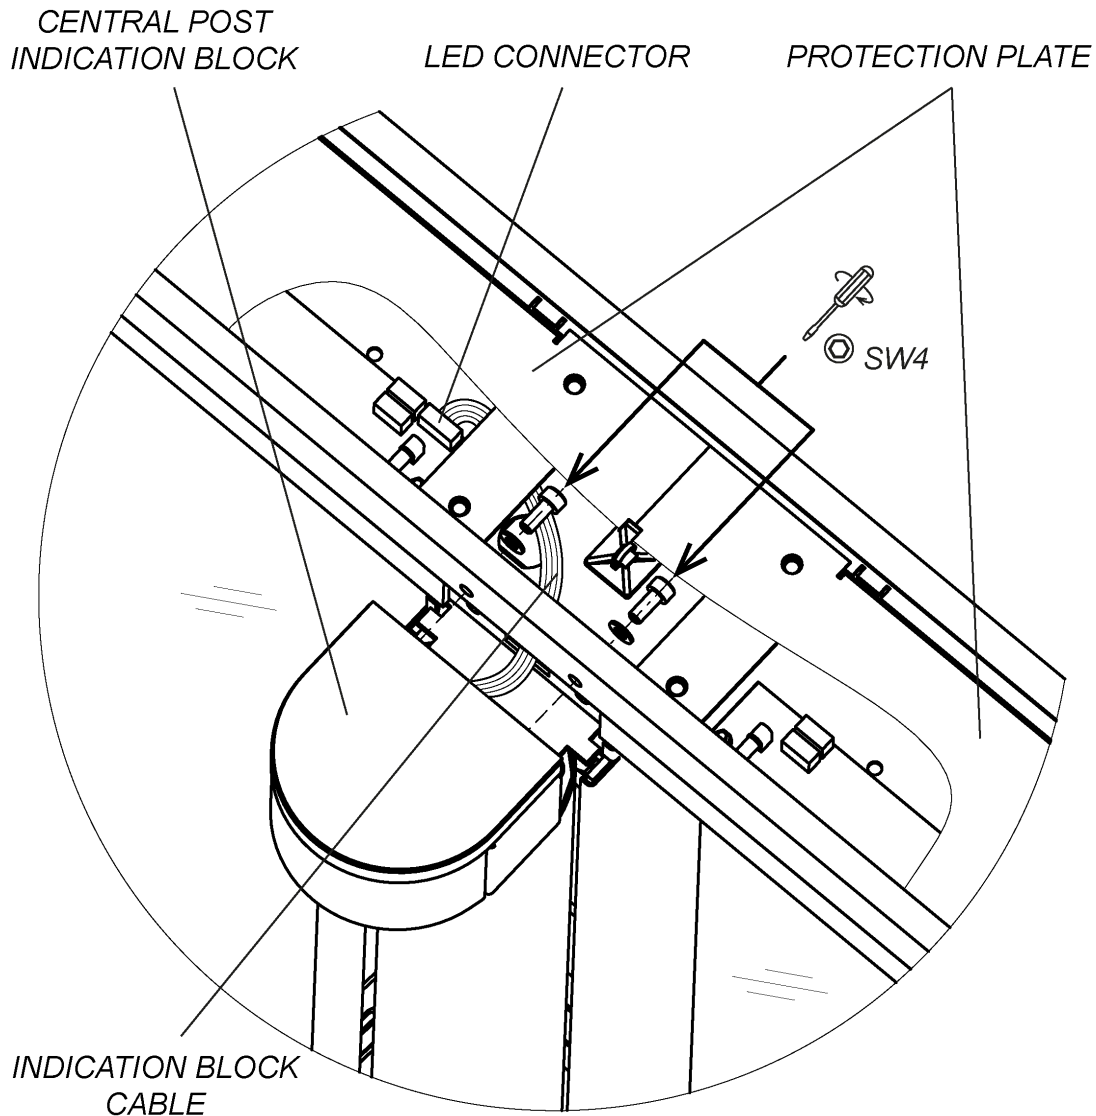
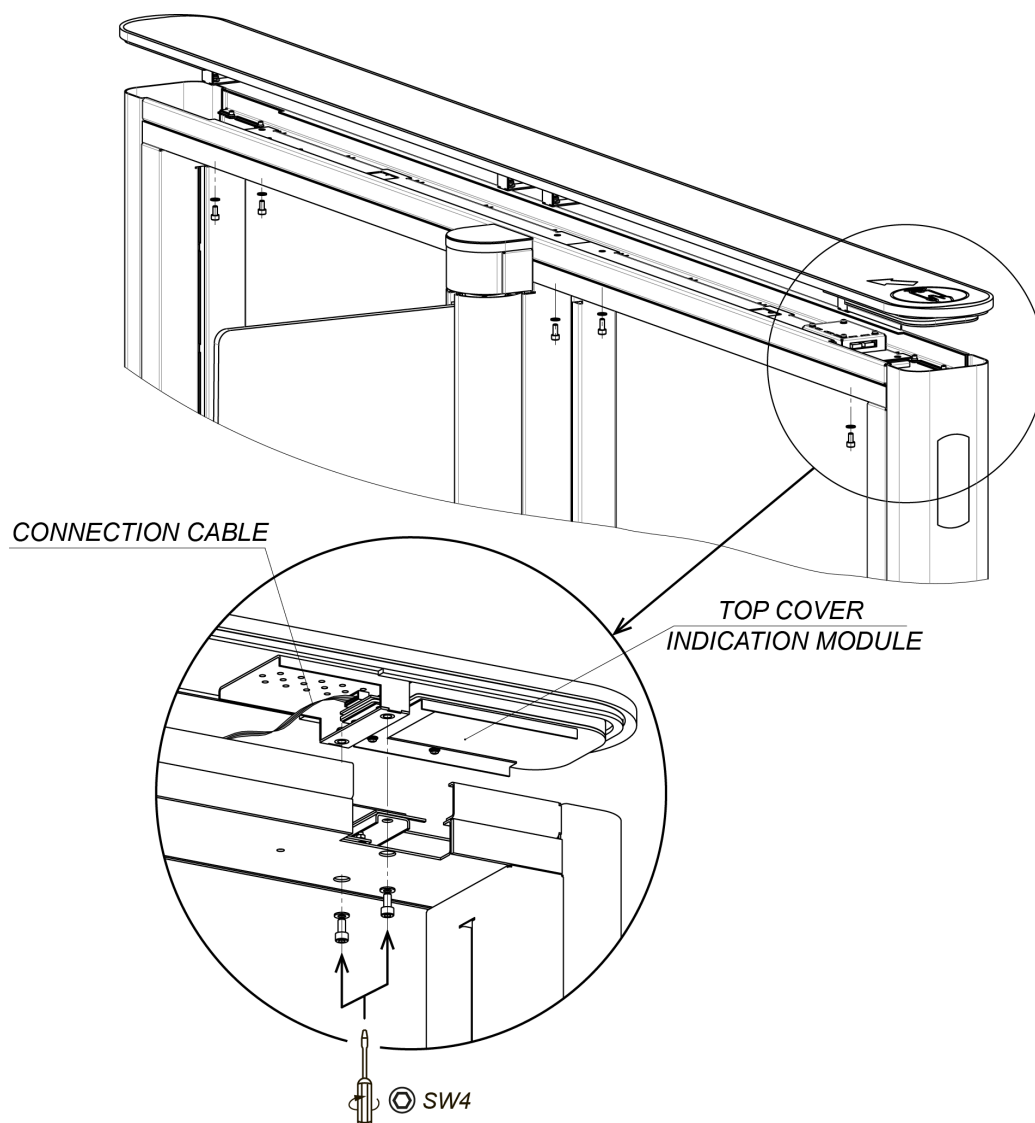
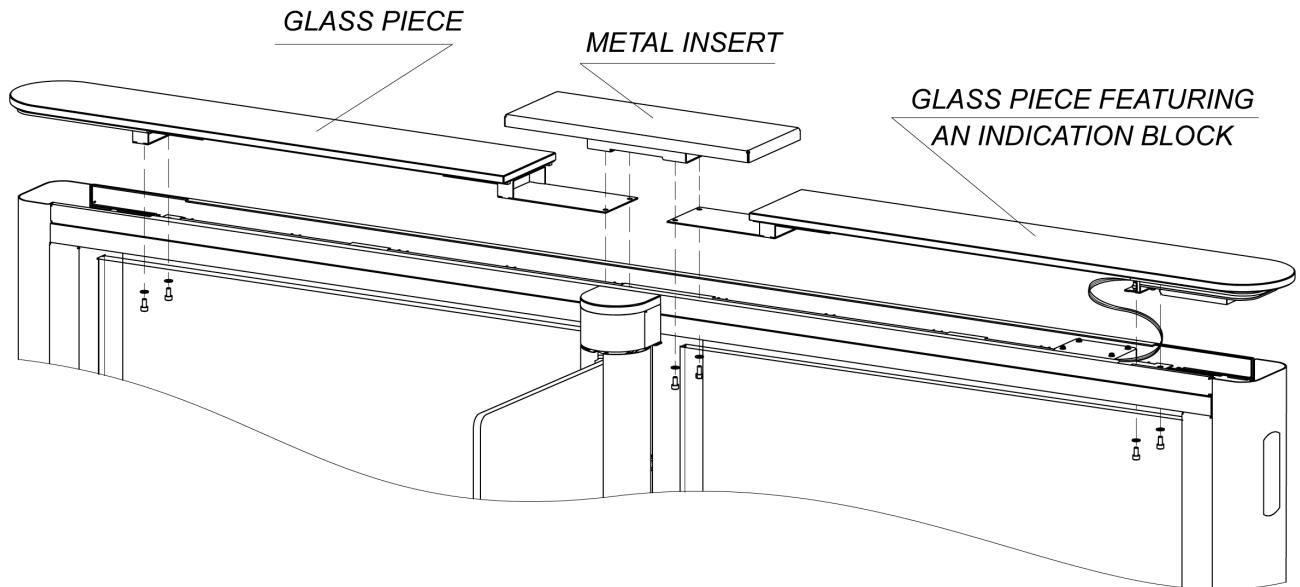

Figure 24. Central post indication block installation
Figure 25. Installation of the STC-01G (SDC-01G) section top cover
Figure 26. Installation of the STC-01GS (SDC-01GS) section top cover
In order to install the central post indication block (3), proceed as follows (Fig. 24):
3. Install the indication block on the surface located above the rotary support of the swing panel and, using an SW4 Allen key, fix it on the post top duct (12), using two M5×16 screws with washers from the delivery set.
Remove the central post indication block in reverse order. Prior to this, take the section top cover (10) off the turnstile section (Sect. 8.9.6, Fig. 24, Fig. 25, Fig. 26).
Installation procedure for the **STC-01G (SDC-01G)** and **STC-01S (SDC-01S)** section top covers (see Fig. 25):
Installation procedure for the STC-01GS (SDC-01GS) section top cover (see Fig. 26):